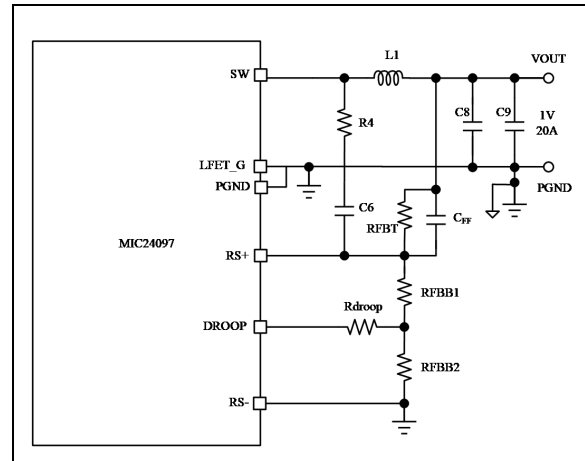

FIGURE 4-21: AVP Implementation for 5V Output with 2% AVP Range for DROOP Pin Range 0V to 300 mV.
Step 3: The R_{FBB1} is slightly adjusted to get $V_{OUT} \times (1+\varepsilon)$ for $I_{OUT} = 0A$. The result is shown in Figure 4-21.